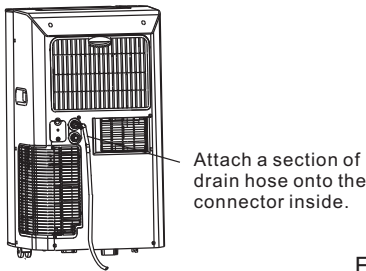

Fig.22
- For the models without drain connector, just attach the drain hose to the hole. Place the open end of the hose directly over the drain area in your basement floor. Please refer to Fig.22.